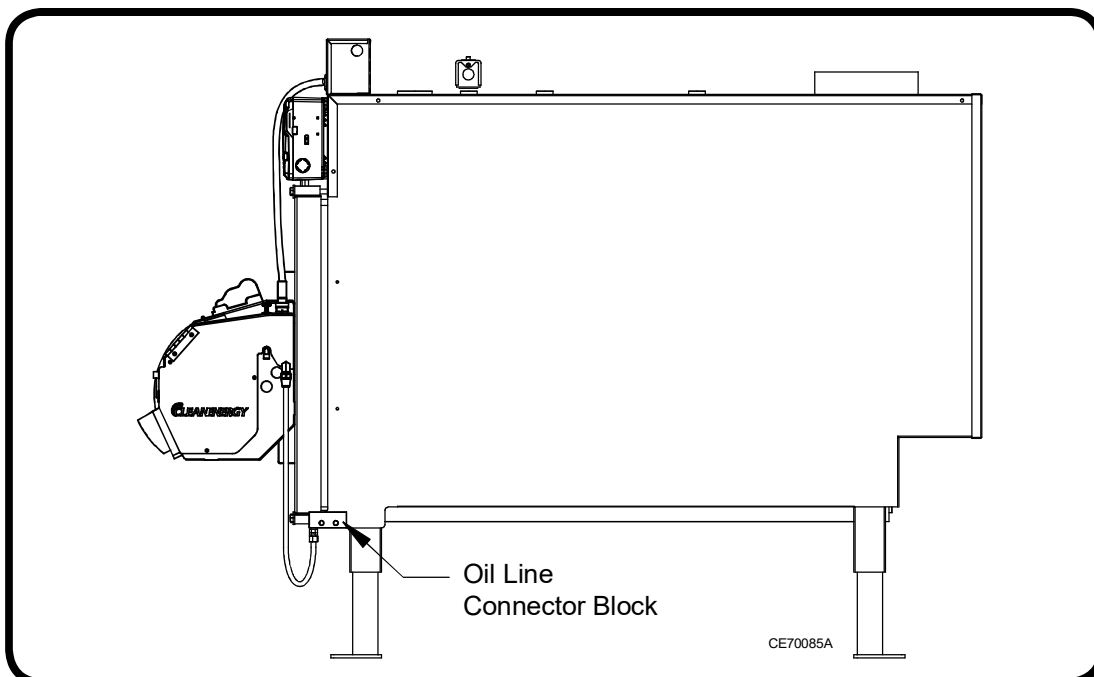

Figure 7: Installing the Connector Block and Oil Line
- (1) Refer to Figure 7 to position the connector block.
- (2) Fasten the connector block to the side of the boiler with the bolts provided.
- (3) Install the supplied 3/8" copper tubing from the swivel fitting in the connector block to the burner.